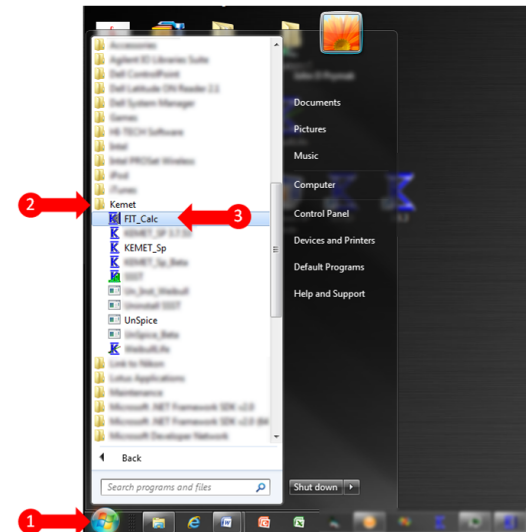

Figure 1: Starting the FIT Calculator.
You activate the program by using the [Start] button of the lower left windows screen (1 of Figure 1), select {Programs}, then {KEMET} (2), then, click on the {FIT\_Calc} (3) selection. This will launch the program and the following calculator screen will appear.